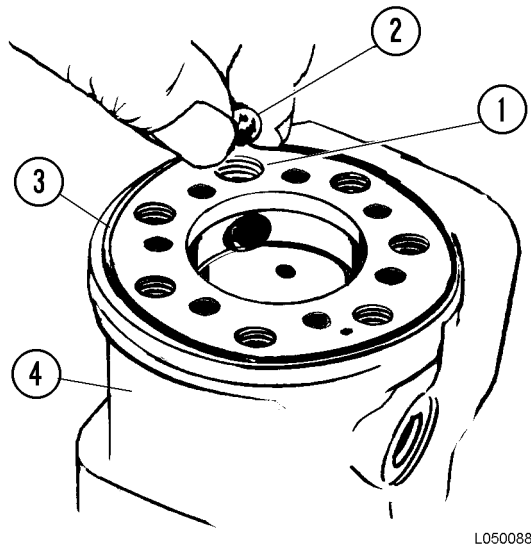

FIGURE 5-12. CHECK BALL INSTALLATION
10. Install the check ball in the hole shown in Figure 5-12. Install and lightly tighten the threaded bushing.
11. Lubricate O-ring (3) with Vaseline and install it in the housing groove.